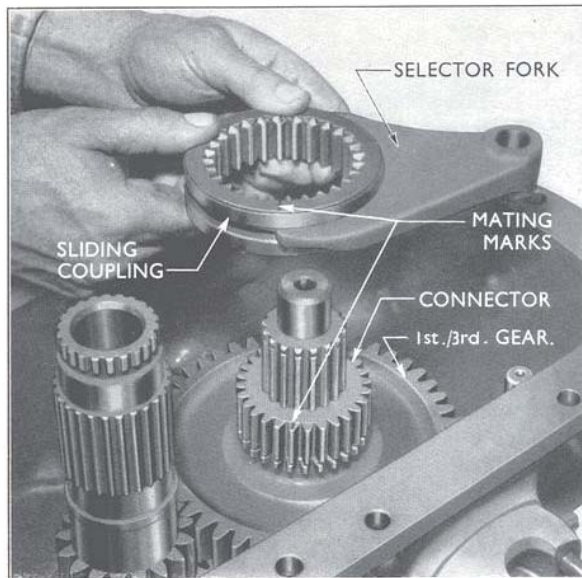

Fig. 18
4. Extract the circlip from the front end of the mainshaft and remove the splined thrust washer, followed by the second/fifth gear. Loosen the locknut and remove the screw from the first/third/second/fifth speed selector fork and withdraw the fork and sliding coupling (see Fig. 18).
Note.—The connector and sliding coupling are serviced as a matched assembly, the faces of the splines being marked to indicate their relative radial position when assembled (see Fig. 18).